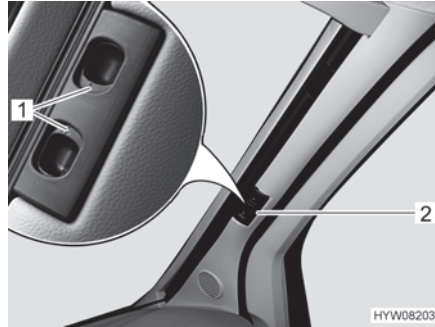

Fig. 23 Roman shade for the windscreen
- Use the handle (Fig. 23,2) to pull the two halves of the Roman shade for the windscreen outwards as far as they will go. When doing so, move the handle horizontally in the direction of the locking recess.
- Allow the release handles (Fig. 23,1) to engage.